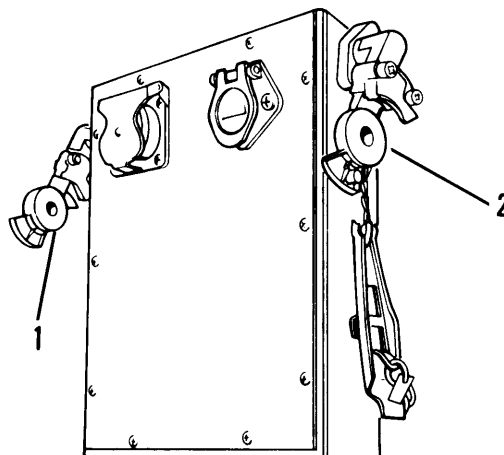

Figure 2-15. Connecting Intervehicular Hoses
- (1) Connect the two air hoses marked SERVICE (1, fig. 2-15) and EMERGENCY (2) on towing vehicle to corresponding air hose couplings on the semitrailer.
- (2) Open air lines shutoff valves on towing vehicle.
- (3) If no air leakage is detected, apply the brakes on the semitrailer from the towing vehicle.